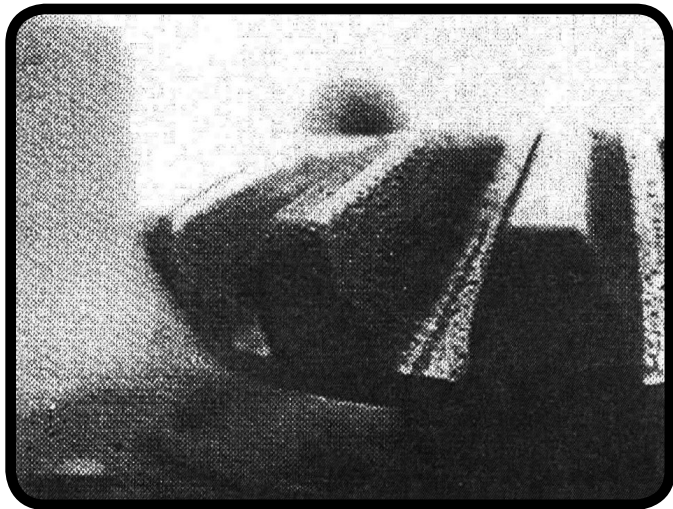

Figure 4
a) New side gear (Figure 4). Note that the surface has a slight roughness that remains after the forging operation.